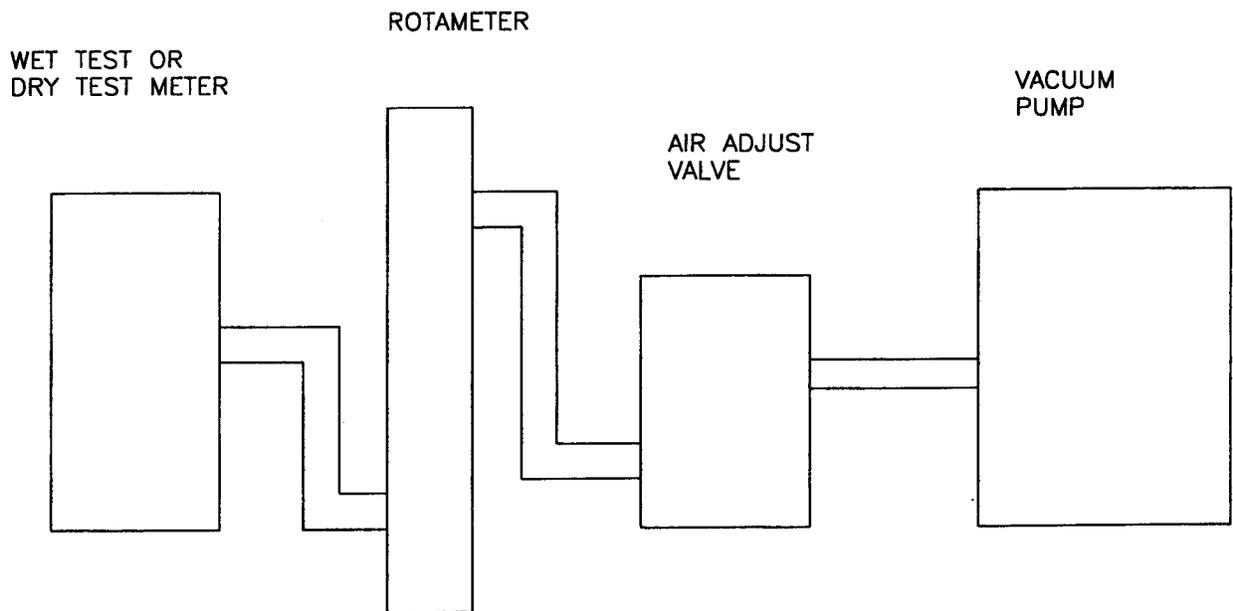

Figure 5.15
3.3.1.4 Mount the rotameter in a vertical position using a ring stand or other similar device (see Figure 5.15).
3.3.2.1 Mount the rotameter in a vertical position using a ring stand or other similar device (see Figure 5.15).